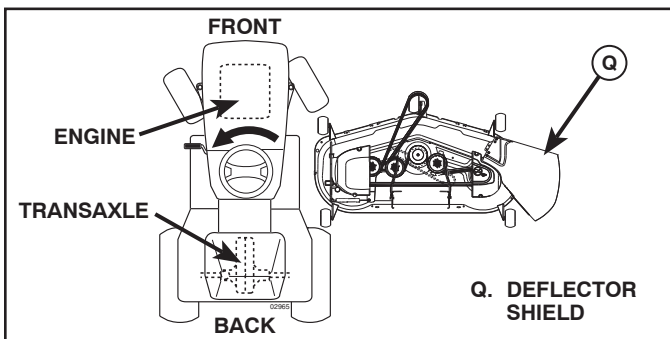

Fig. 26
3. TURN STEERING WHEEL LEFT AND POSITION MOWER (See Fig. 26)
- Turn steering wheel to the left as far as it will go and position mower on right side of tractor with deflector shield (Q) to the right.